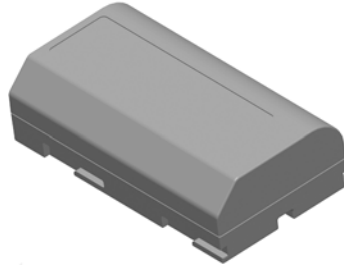

Figure 2.2 Trimble 7.4 V Li-Ion battery
**TIP** – The Five slot charger and Dual slot charger can also be used to charge the Trimble 7.4 V Li-Ion batteries used in the Trimble MultiTrack™ Target and the Trimble Active Track 360 Target, see Figure 2.2